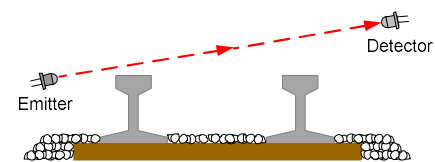
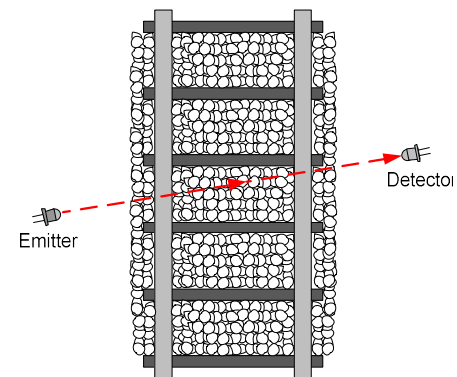

Figure 10a
Figure 10b
With this sensor mode and physical arrangement a train is detected when the infrared (IR) beam is broken by the train. The IR components should be located across the track as shown in Figure 10a and 10b; the distance between them has been tested up to 16 inches. The detectors (dark lens, blue and black wires) should be mounted with a slight downward angle in order to minimize the possibility of false triggering from visible light sources; this is illustrated in Figure 10a. We would also recommend that you angle the emitters and detectors across the track as shown in Figure 10b. This will minimize false “clear” situations due to the space between rolling stock. You can bend the IR emitter and detector components IF you are VERY careful and, preferably, use a pair of “smooth jaw” (no teeth/serration) pliers!! Make the bend on the IR component NO CLOSER than 0.5” from the tip. You don’t want to pierce the insulated heat shrink tubing and potentially cause a short.